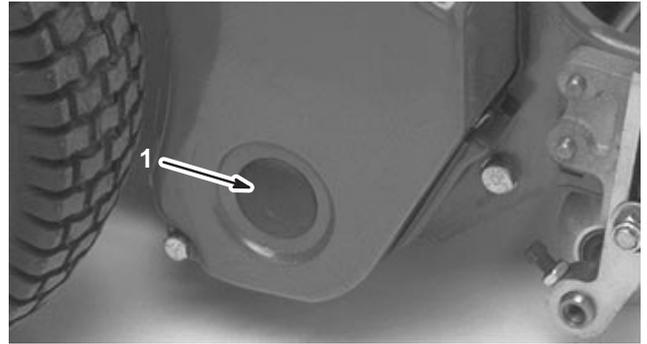

Figure 50
- Remove the plug in the right reel drive cover (Fig. 50).